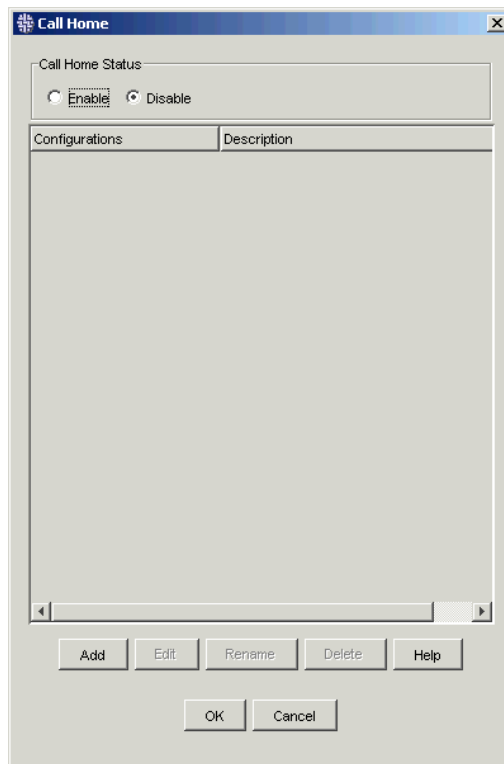

Figure 19: Call Home Window
1. Select **Tools > Call Home**. The Call Home window is displayed (Figure 19).